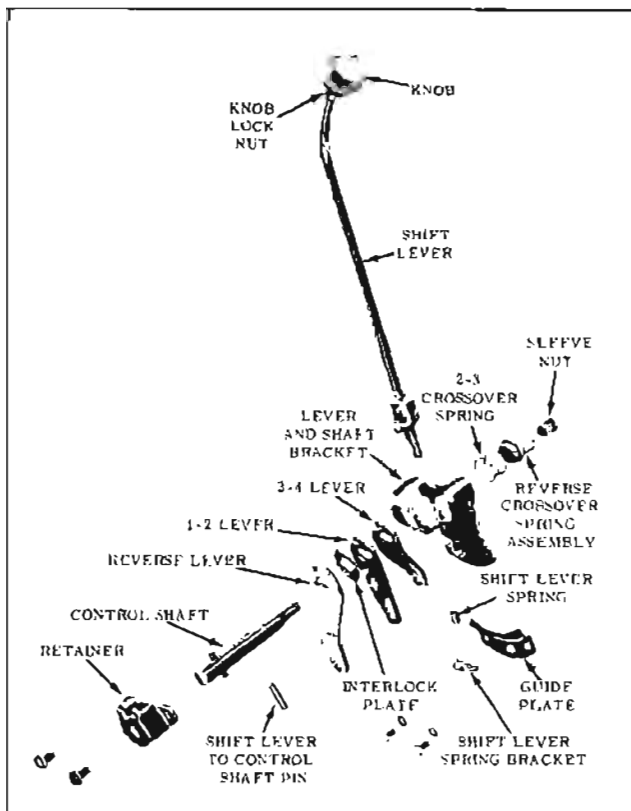

Fig. 11-260 Gear Shift Assembly
2. Remove the reverse lever, interlock plate, 1-2 lever, and the 3-4 lever. (Fig. 11-260)
3. Remove the sleeve nut from the control shaft, the reverse crossover spring assembly and the second to third gear crossover spring. (Fig. 11-260)
4. Remove the two guide plate bolts and washers and the guide plate and shift lever spring bracket. (Fig. 11-260)
5. Drive the retaining pin from the shift lever and control shaft with a small straight punch, then remove the control shaft and shift lever from the bracket. (Fig. 11-260)
2. Position the guide plate and shift lever spring bracket on the lever and shaft bracket, then install the two lock washers and bolts. (Fig. 11-260)
3. Connect the shift lever spring to the spring anchor on the shift lever and the bracket. (Fig. 11-260)
4. Install the 3-4 lever (short), the 1-2 lever (straight), the interlock plate with tang up, and the reverse lever (long) on the control shaft. (Fig. 11-260)
7. Install the second to third crossover spring on the control shaft then the reverse crossover spring assembly and the sleeve nut. (Fig. 11-260)